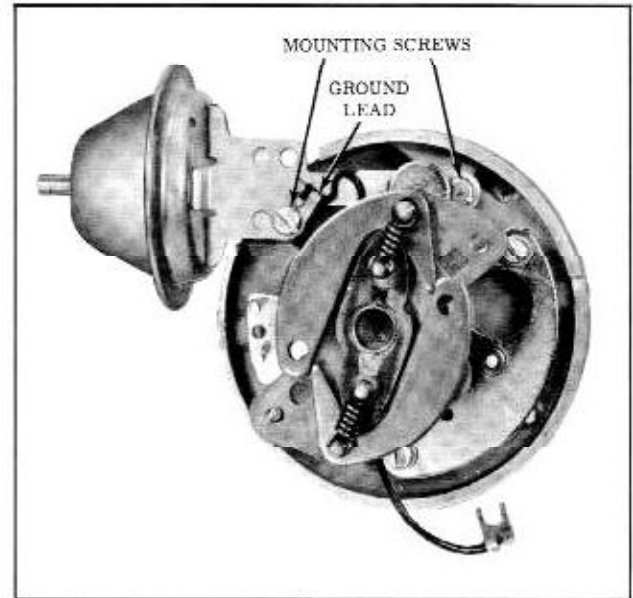

Fig. 13-64 Vacuum Advance Installation
2. Install mounting screws attaching the ground wire to the outer mounting screw as shown in Fig. 13-64.